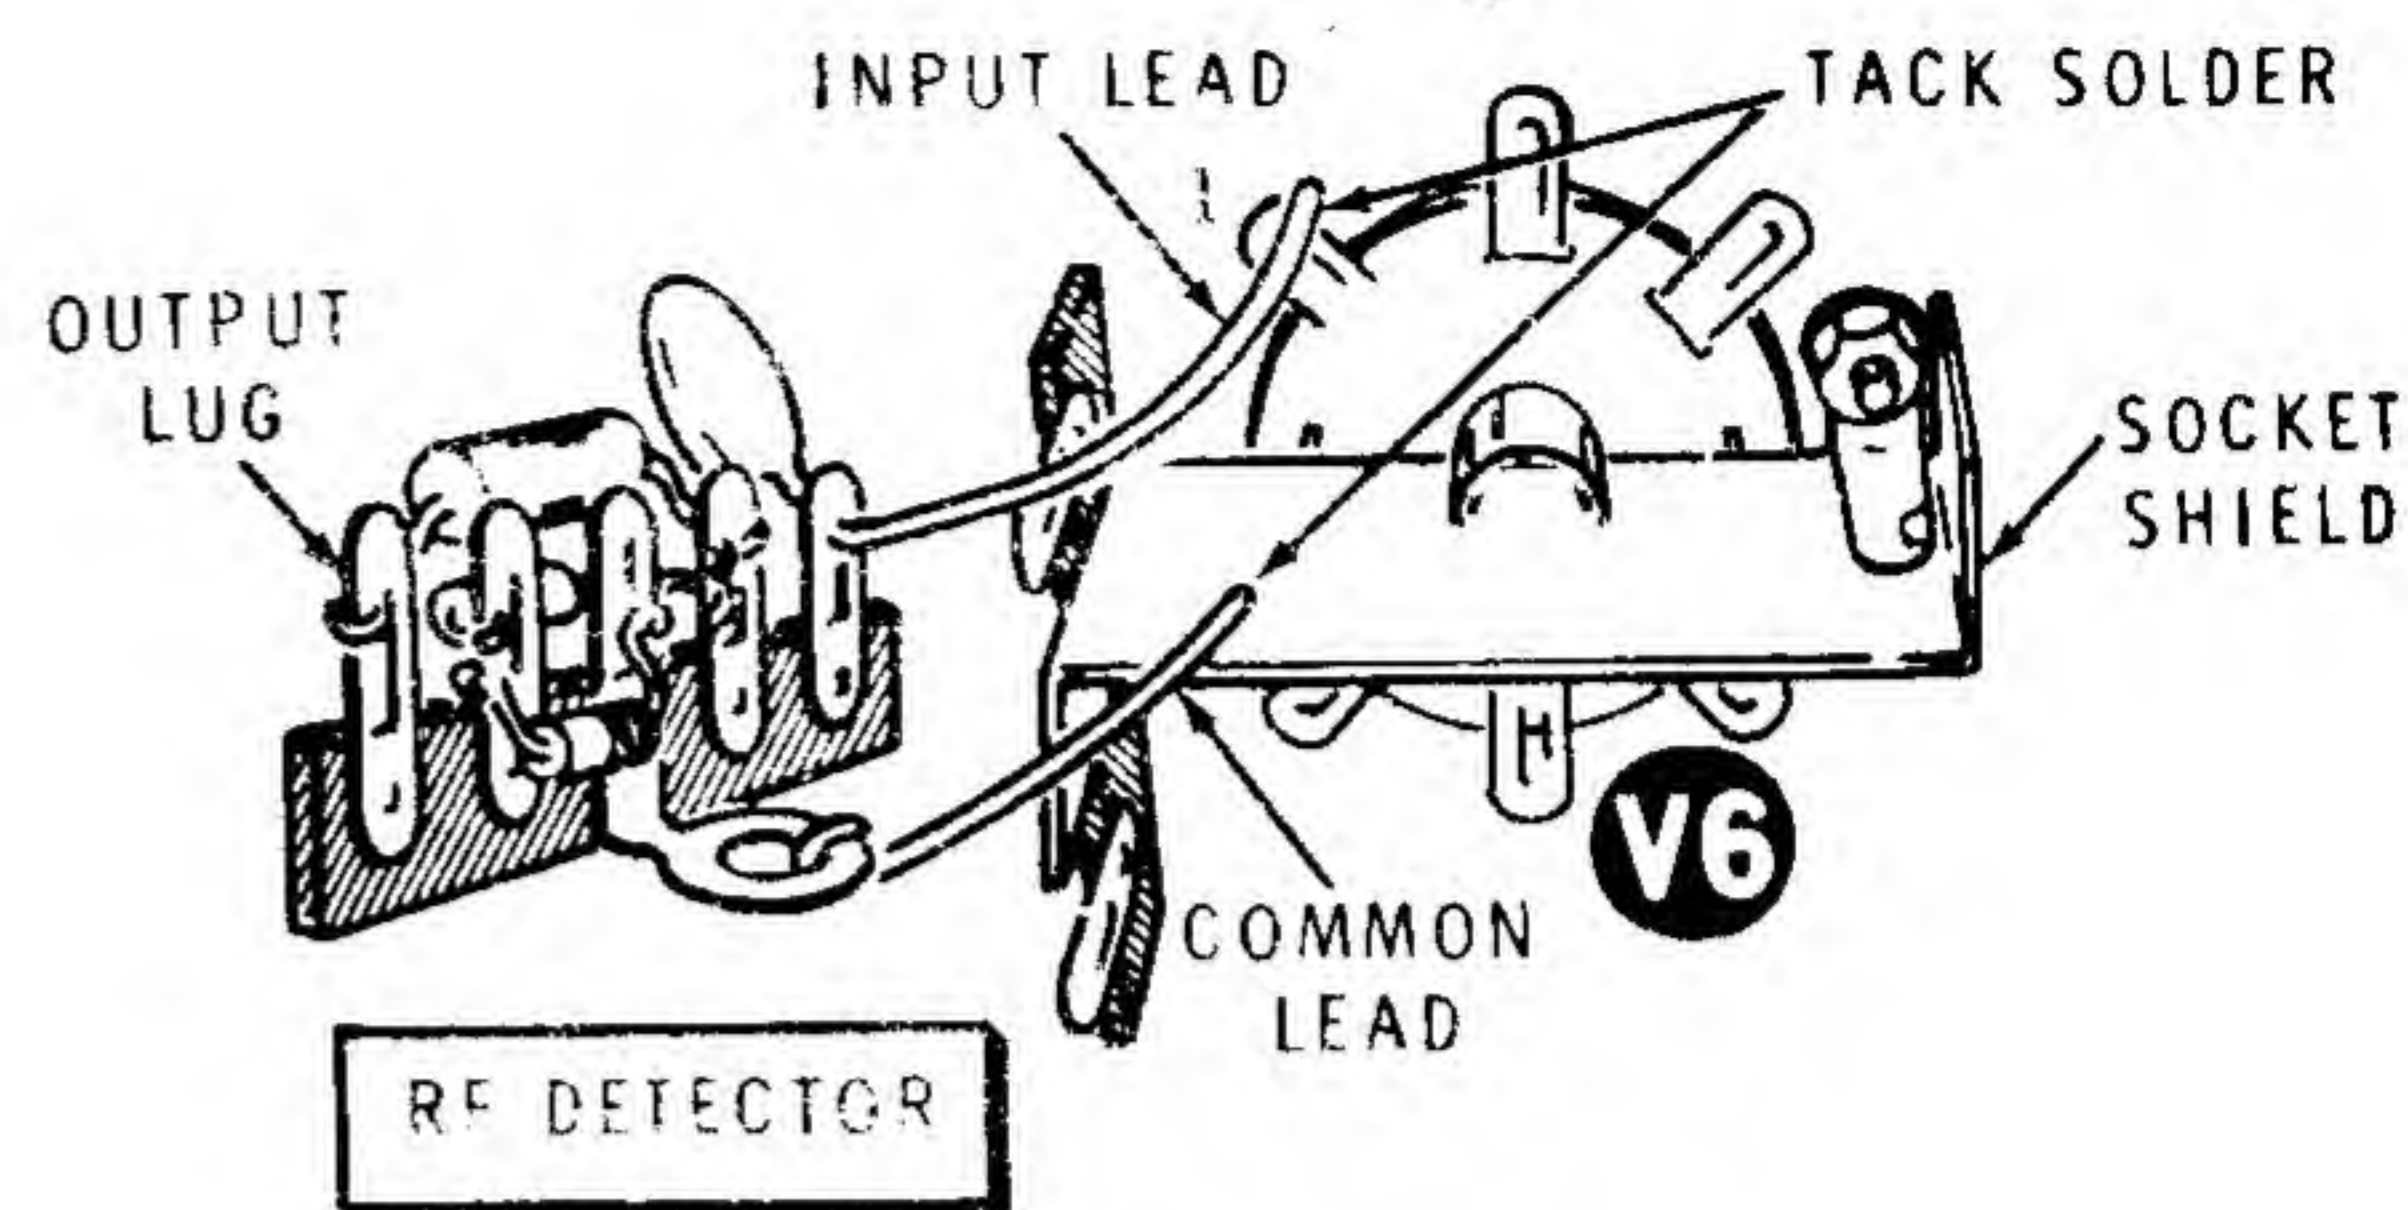

Figure 8-2
- () Refer to Figure 8-2 and tack solder the input lead of the RF detector to lug 2 of tube socket V6 in the Transverter. Tack solder the common lead to the socket shield. Make sure these leads do not touch anything else.